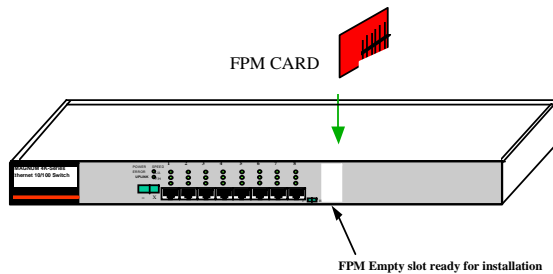

Figure 3.4.2b: Inserting PM Cards into a Magnum 4K8
Step 3. Be sure the pins are precisely aligned with the holes in the header, and the FPM front panel is guided into the front slot cut-out. Then, slowly and carefully apply enough pressure to insert the FPM card pins into position, see Figure 3.4.2b. (If you force the FPM down when the pins are not properly aligned with the holes in the header, the pins will become bent and the FPM is damaged).